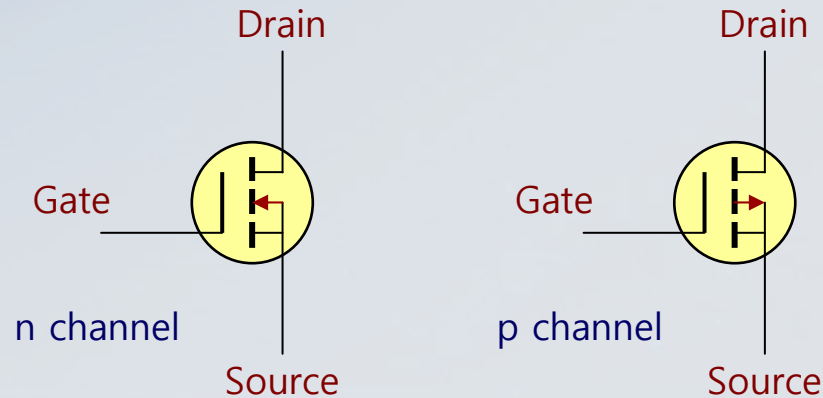

Figure 1-42. *E-MOSFET schematic symbols.*
- The schematic symbols for the n-channel and p-channel E-MOSFETs are shown in Figure 1-42.